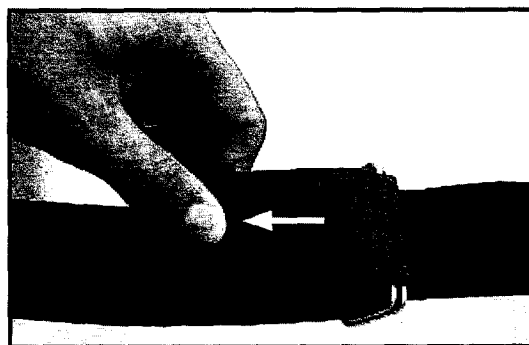

Figure 10 - Loosening the Restraint
1. Pull the red breakaway tab against the buckle (Figure 10). Continue pulling until the restraint is as loose as desired.